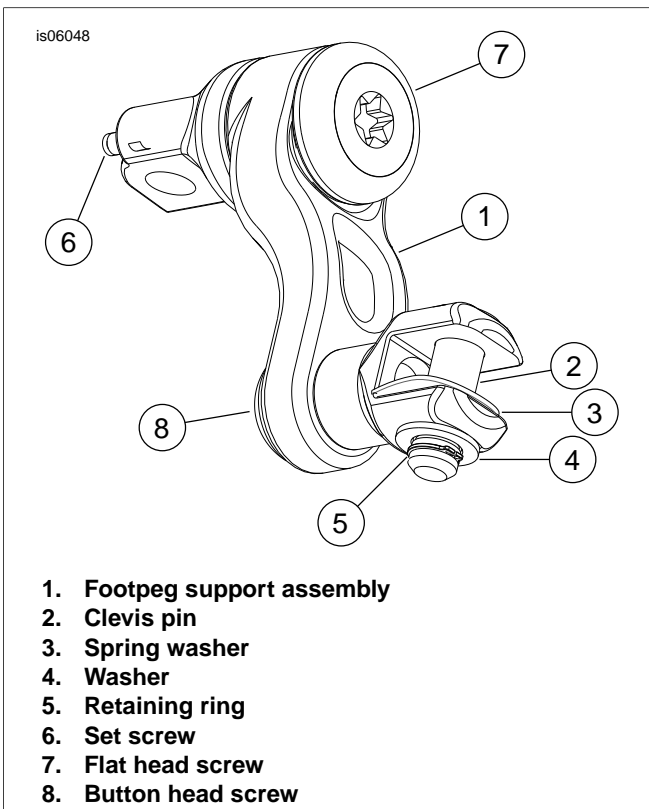

Figure 3. Adjustable Footpeg Support
5. Tighten screws (3) to 25-30 ft-lb (33.9-40.7 Nm).
6. **Kit 50763-09:** See Figure 3. Install the adjustable clevis with the set screw (6) on the top to the footpeg support and secure it with the spring washer, screw and locknut previously removed.